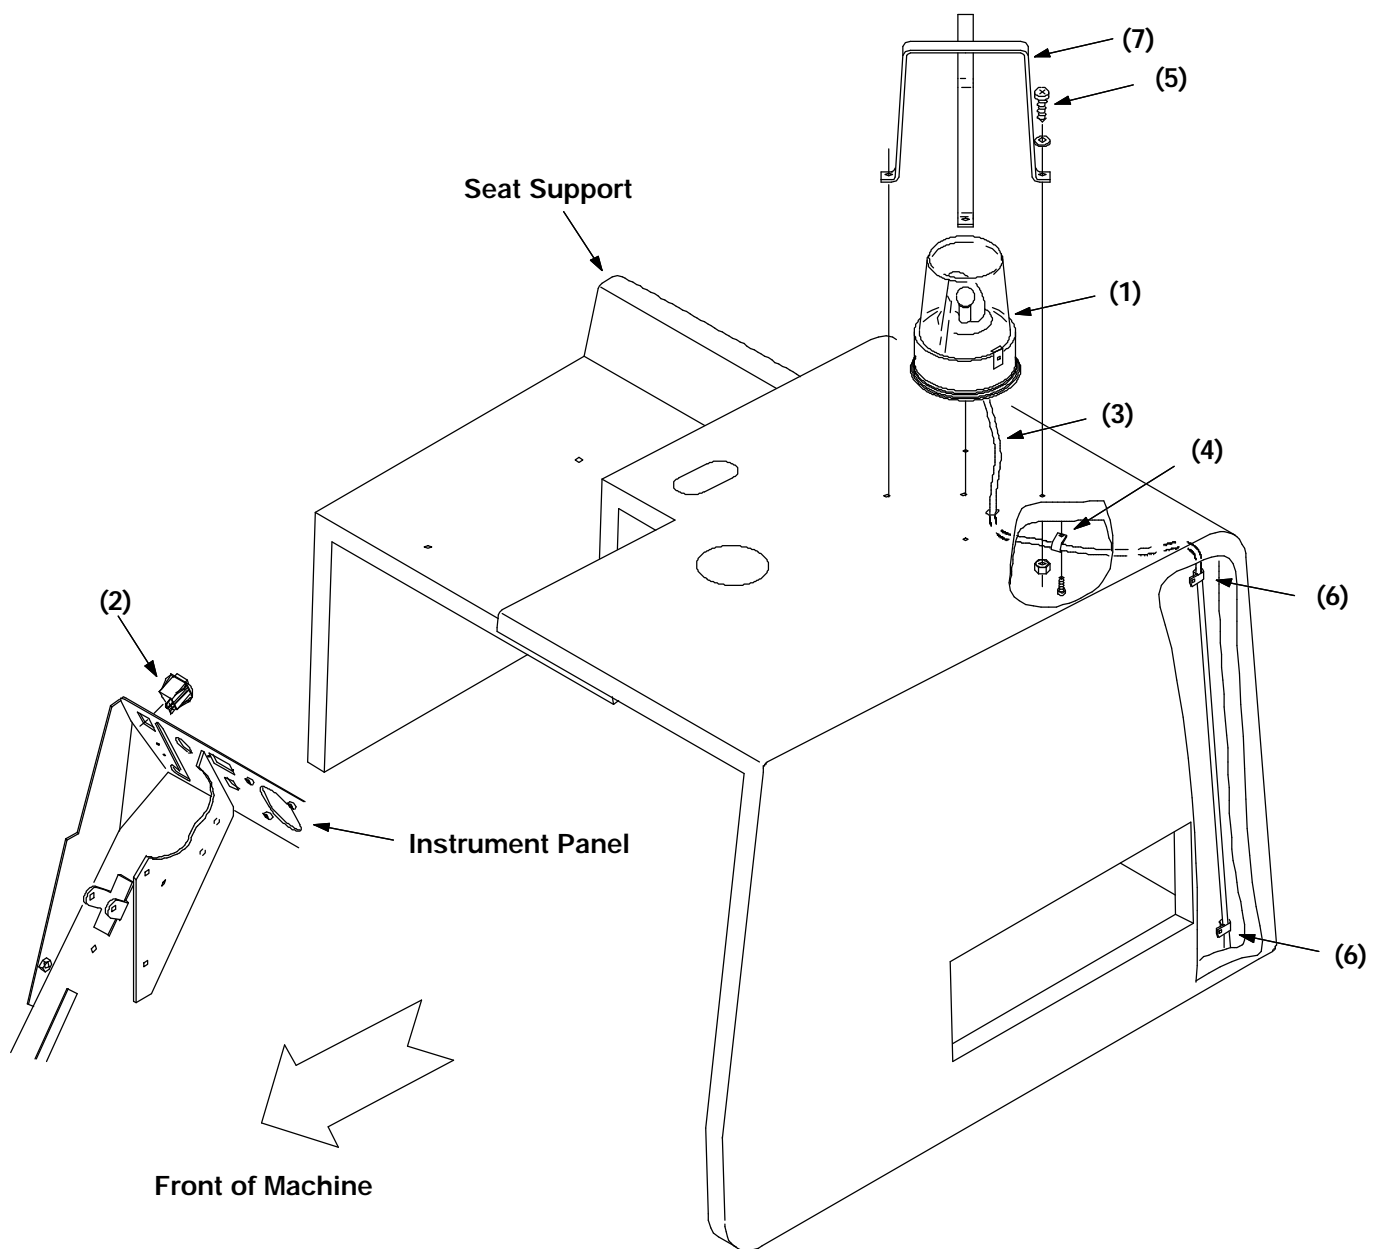

FIG. 2 - Revolving Light and Switch Assembly
8. Plug wire harness (3) into light (1). (Refer to FIG. 2)
9. Install light (1) and guard strip (7) with hardware provided (5). (Refer to FIG. 2)
10. Use pre-drilled holes in louver flange to secure wire harness with cable ties (6).
11. Remove switch plug from instrument panel. (Refer to FIG. 2)
12. Install switch (2) into instrument panel and plug into wire harness (3). (Refer to FIG. 2)